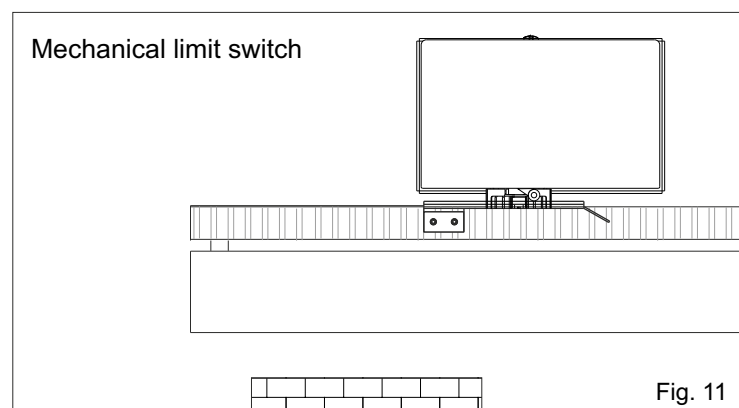

Fig. 11
- Place the plate on the rack in order to operate the lever of the limit switch (Fig. 11) and fix it with the provided screws.